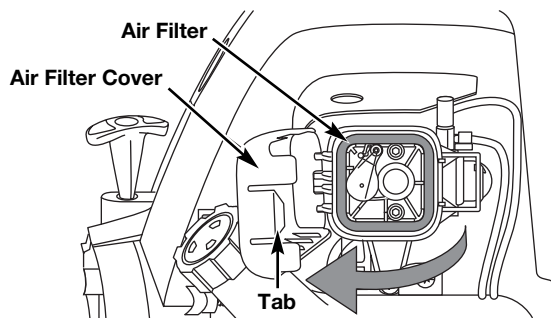

Fig. 27
- Open the air filter cover. Push the tab on the right side of the cover inward. Then pull the air filter cover out and to the left (Fig. 27).
2. Remove the air filter (Fig. 27).